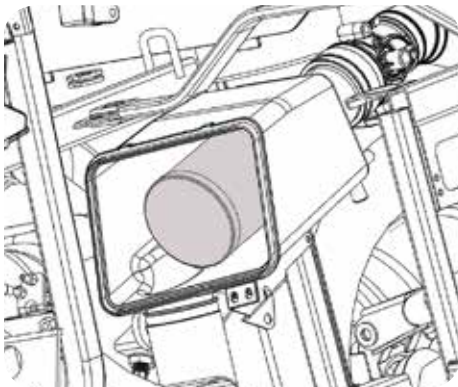

Figure 5-26
3. Remove the air filter element. See Figure 5-26.